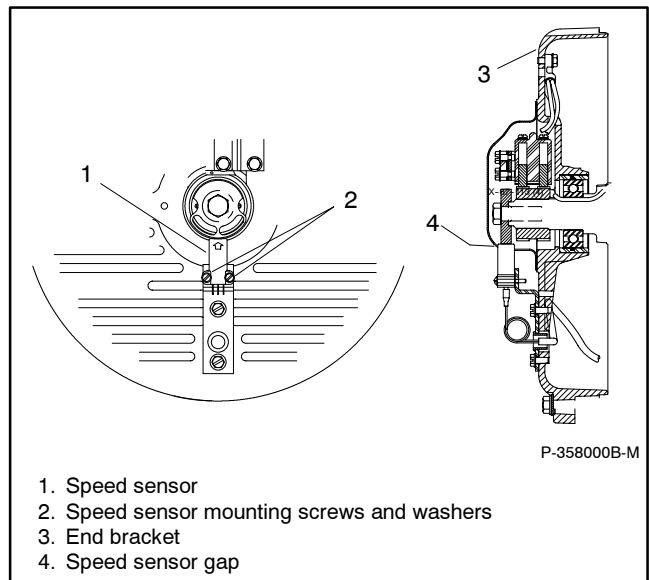

Figure 8-14 Speed Sensor Assembly
- c. Set the gap between the magnetic actuator and the speed sensor to 0.010-0.020 in. (0.25-0.51 mm) and final tighten the sensor mounting screws. See Figure 8-14.
- d. Reconnect the white (0), red (+), and black (-) speed sensor leads to the speed sensor terminals.